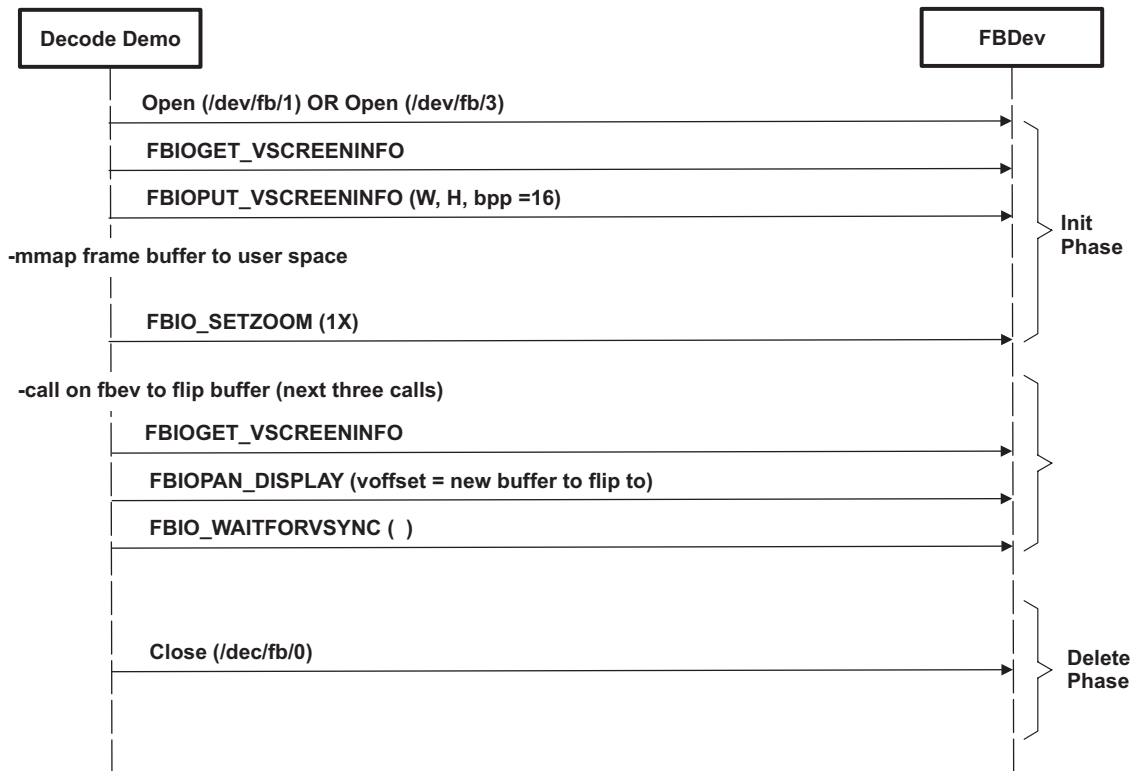

Figure 19. Timing Diagram Showing Decode Demo and FBDev Interaction
Similar to the driver, the decode demo that ships with the DVEVM assumes one constant configuration defined at boot time (via the u-boot environment variable). Therefore, there is no need to provide it in the information when running the decode demo from the command line (for instance, /decode -l -v data/video/davinvi_effect.m2v). The demo source code supplied with this application report has been modified to provide a video resolution via the -r option, allowing run-time switching among the standard definition (SD), high definition (HD), and video graphics adaptor (VGA) video output modes supported by the provided software. Figure 19 shows a timing diagram showing the flows of requests from the original decode demo to the original FBDev driver.